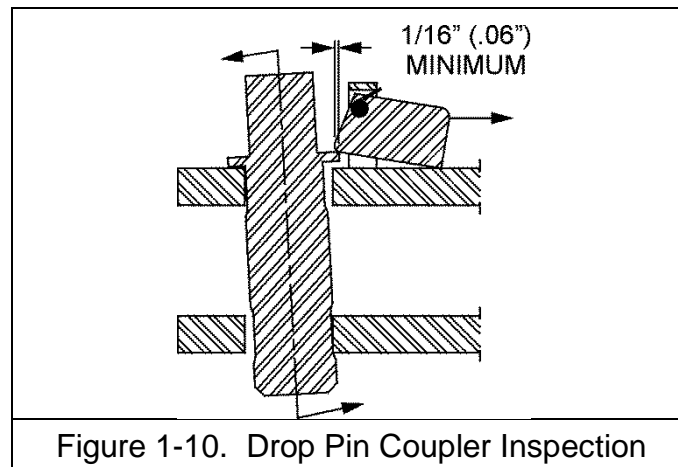

Figure 1-10. Drop Pin Coupler Inspection
- a. Worst-case latch engagement is less than shown in Figure 1-10, OR